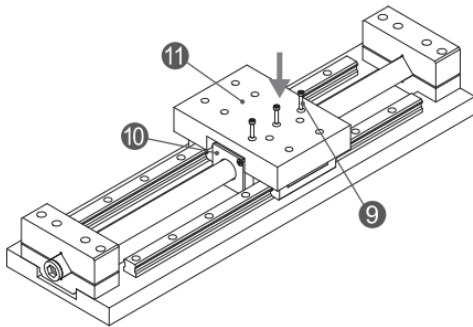

Figure5.2-12 Forcer installation
- ▶ Use screws ⑨ to fasten the forcer assembly ⑩ onto the forcer base ⑪. (refer to Figure5.2-12)